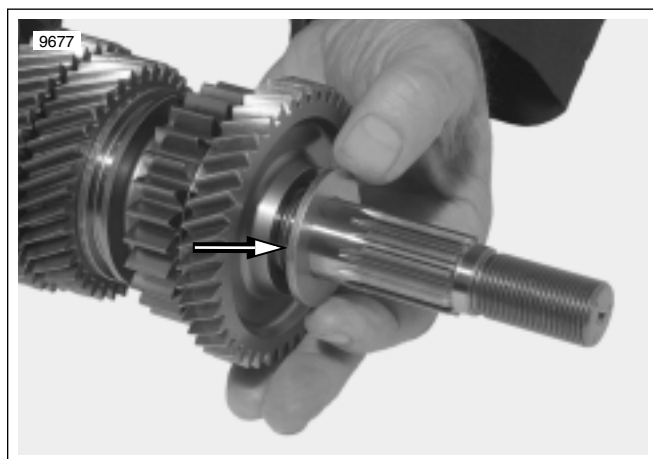

Figure 7-21. Hardened Washer
3. See Figure 7-21. Install hardened washer.